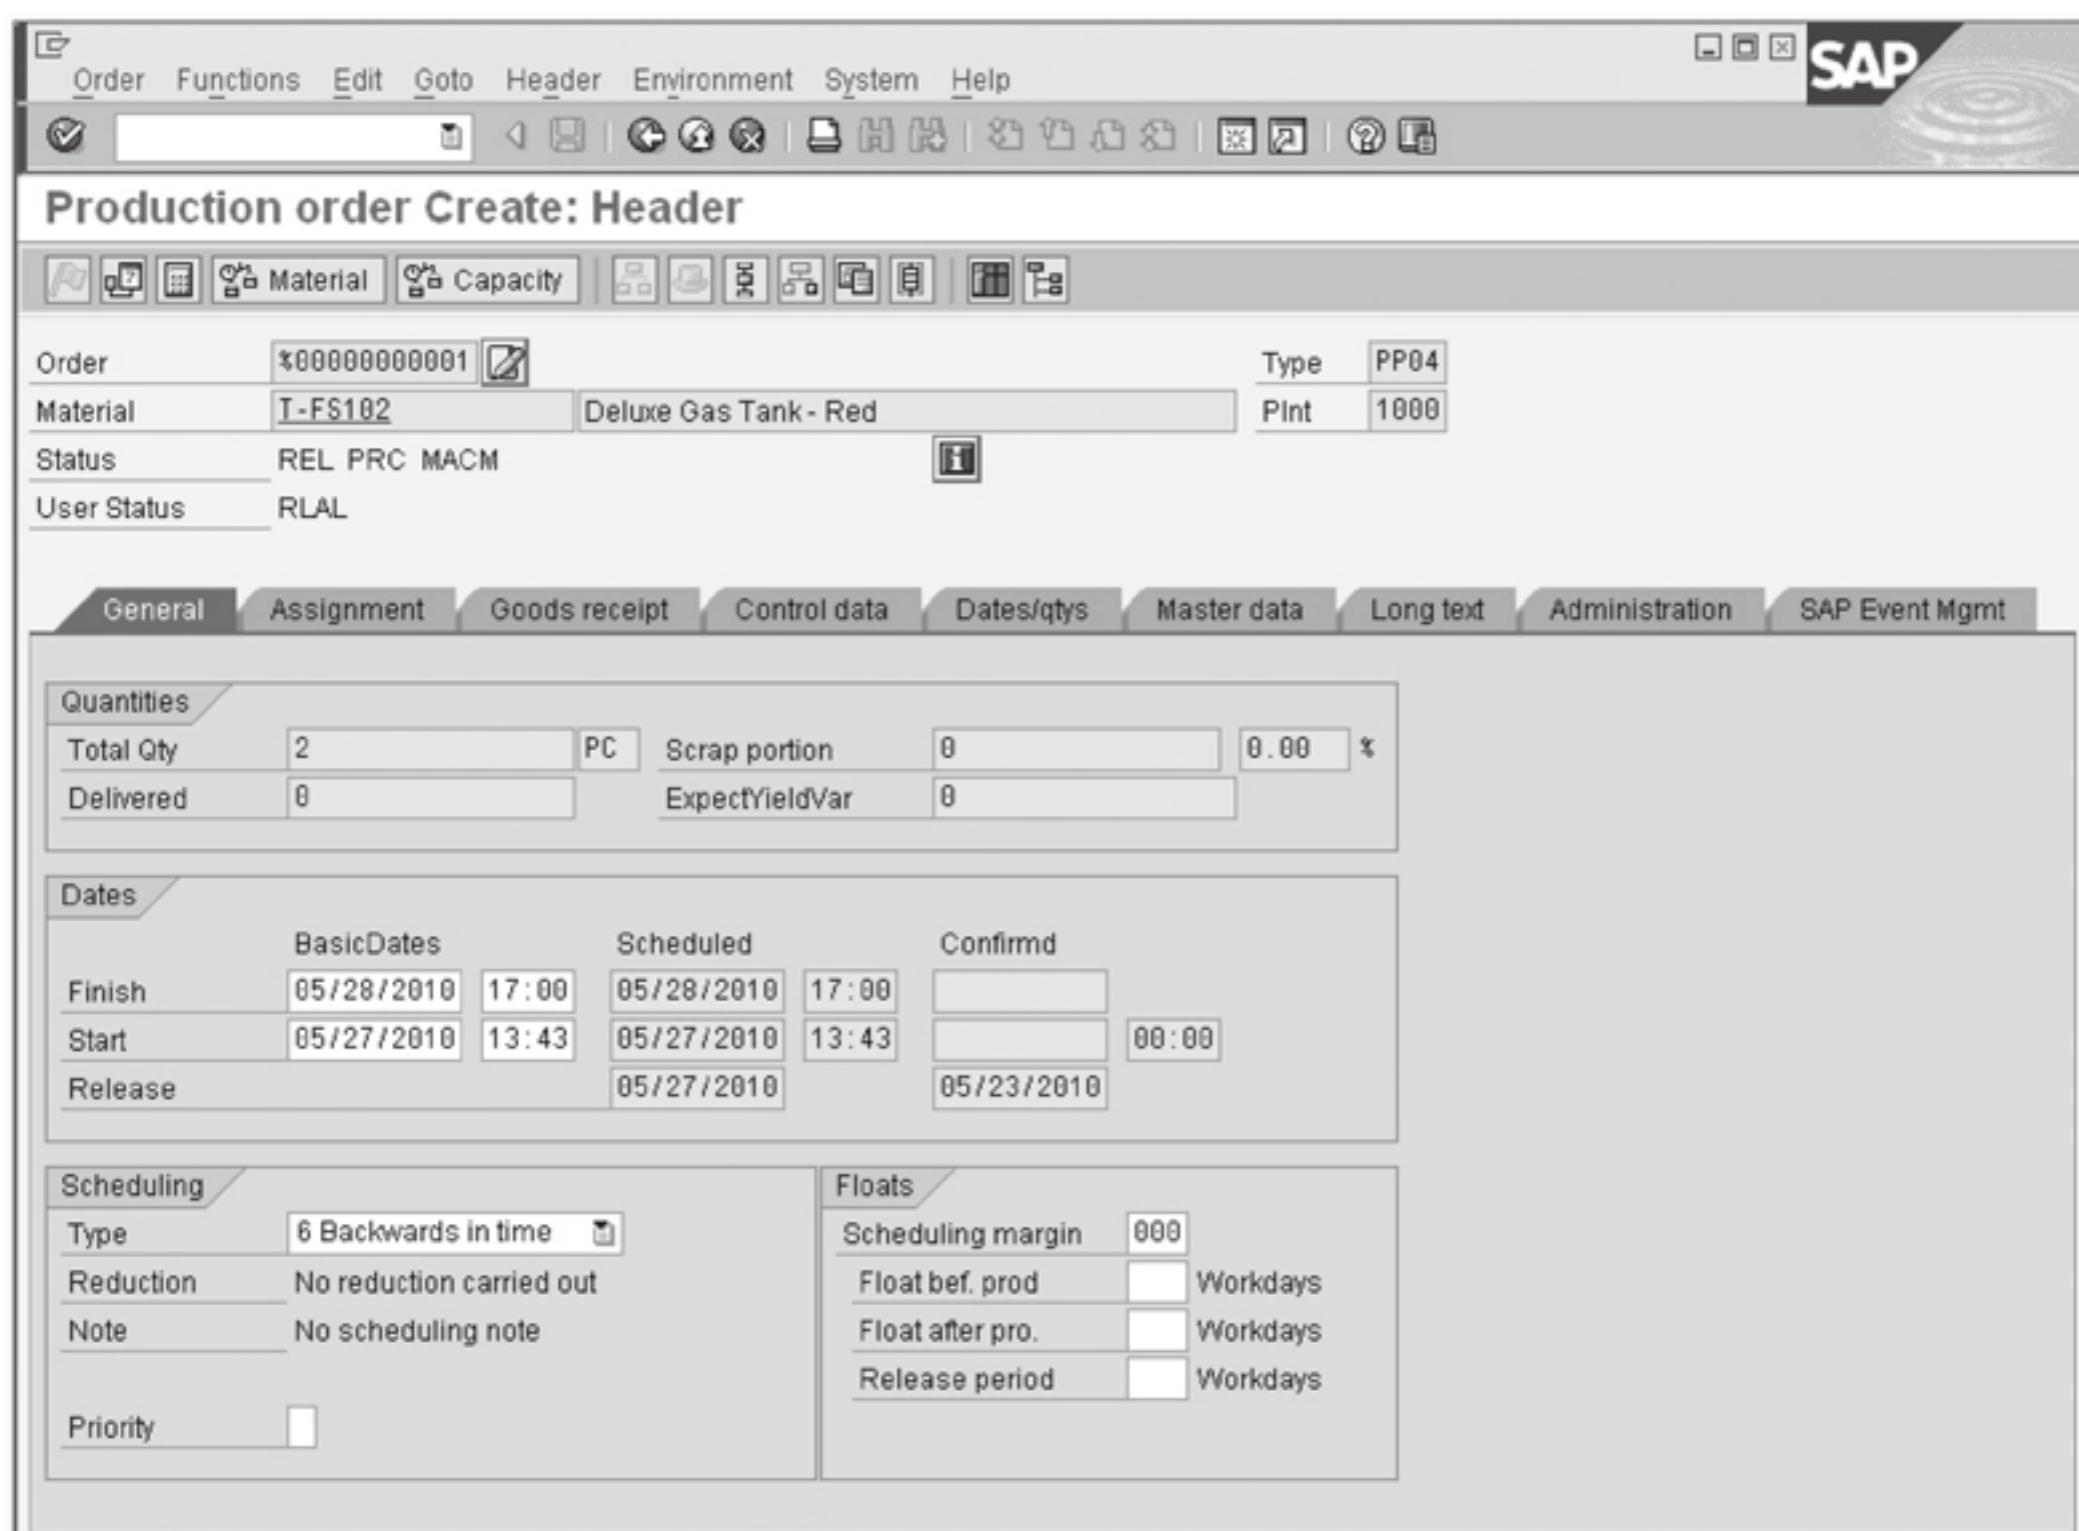

Figure 3.73 Production Order Change – Header Data Screen
5. Now you can review the details of the schedule lines created (see Figure 3.73). Note that the CP-Deterministic MRP schedule line category has been determined. To get to this screen, select your item on the Overview screen, and